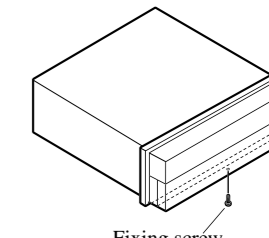

Fig. 20
- **Fix the front panel to the unit using fixing screws after removing the front panel. (Fig. 20)**